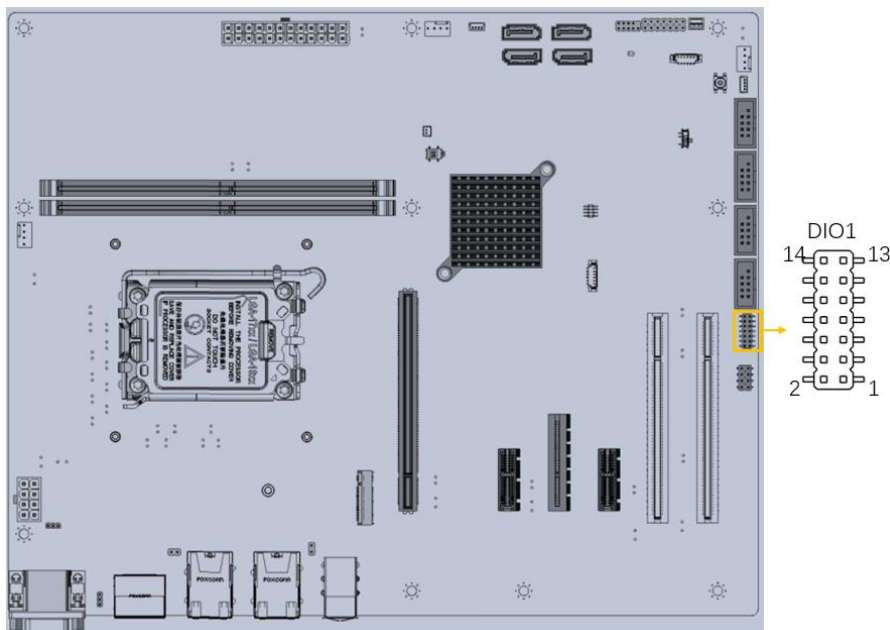

Figure 3-12: Digital I/O Connector Location
- CN Location:** See **Figure 3-12**